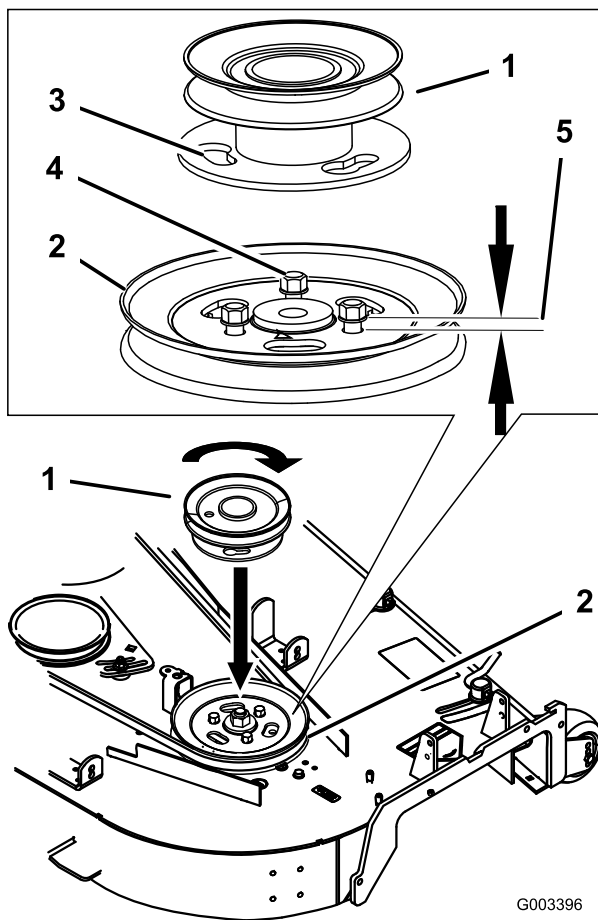

Figure 3
- Loosen, but do not remove, the tapping bolts on the existing mower deck pulley (Figure 3). There should be a 3/16 inch (5 mm) clearance between the bolt head and pulley.
- Align the new pulley assembly so that the openings fit over the pulley bolt heads (Figure 3).
- Turn the pulley to lock it into position (Figure 3).